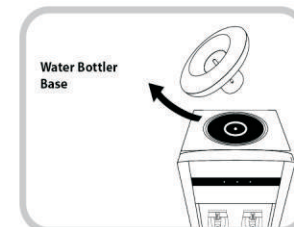

Fig.5
1. If you have a Honeywell water dispenser, remove the water bottle base from the top of the dispenser by turning it clockwise or counter clockwise depending on the model. A similar procedure should apply to other brands of water dispensers. Please contact your water dispenser's manufacturer if further instructions are needed (Fig. 5).